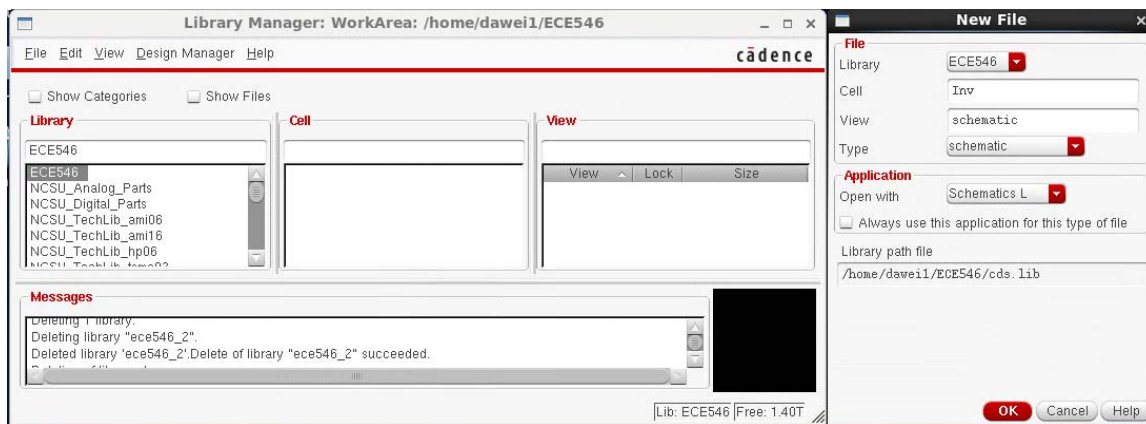

Figure 5. Window view for step 6.
5. A new pop up window as in Figure 5 '**attach to an existing technology library**'. Choose '**NCSU\_TechLib\_tsmc02d**'.